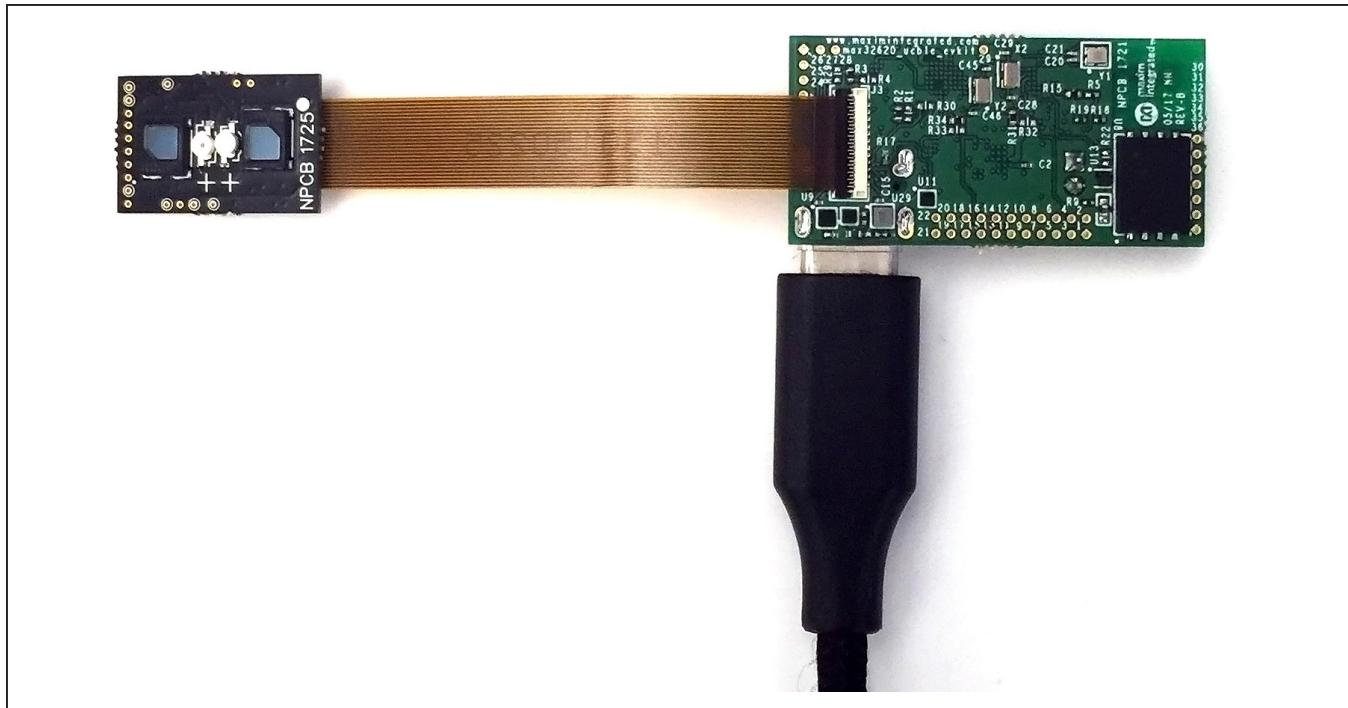

Figure 12. Hardware Setup (MAX86141 EVSYS Sensor PCB)
- 5) If the MAX86140 EVSYS flex cable is not already connecting the Data Acquisition EVSYS Micro PCB to the MAX86140 or MAX86141 Sensor PCB, then please connect the two PCBs with the cable as shown in Figure 9 and Figure 10 or Figure 11 and Figure 12.
- 8) The GUI will then be launched as shown in Figure 12.